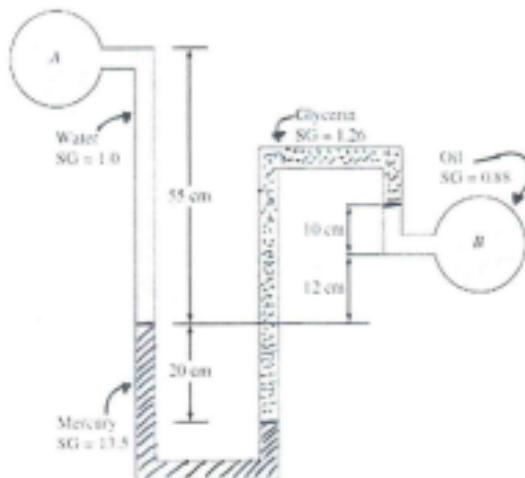

Fig.1
- c) The pressure difference between an oil pipe and waterpipe is measured by a double-fluid manometer, as shown in Fig.1. For the given fluid heights and specific gravities, calculate the pressure difference  $\Delta P = P_B - P_A$ . (5 marks)